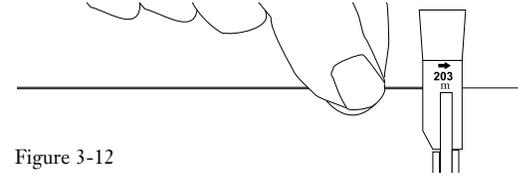

Figure 3-12
3.4-3 Remove this 40-mm section of each buffer with the 203  $\mu\text{m}$  No-Nik tool in small increments (Figure 3-12).